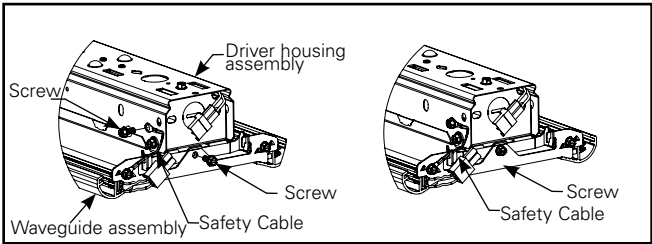

Figure 5.5.
- E. Secure waveguide assembly to driver housing assembly with screws and safety cables provided with waveguide assembly using a long bit or right angle tool (Figure 5.5).